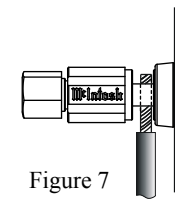

Figure 7
- Connect the Loudspeaker hookup cables to the MC611 Negative Output Terminal and Positive Output Terminal identified as 2Ω (ohms), 4Ω (ohms) or 8Ω (ohms) connection to match the impedance of the Loudspeaker, being careful to observe the correct polarities. Insert the spade lug connector or prepared section of the cable end into the terminal side access hole, and tighten the terminal cap until the cable is firmly clamped into the terminals so the lugs or wire cannot slip out. Refer to figures 7 and 8.